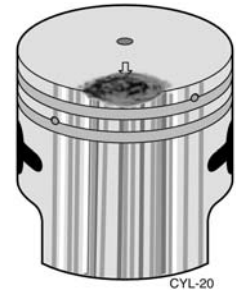

Figure 2.22 Damage caused by preignition.
- Preignition (Figure 2.22)** from incorrect spark plug/carbon buildup (may also result from lean carburetor setting).